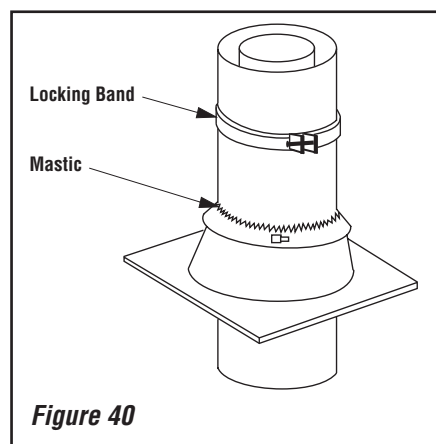

Figure 40
Step 8. The standard Security FTF8 roof flashing assemblies include a storm collar. Slide the storm collar over outer chimney, rest on flashing spacers and align with top surface of flashing. Insert tab in slot, pull tight and bend tab back over slot. Seal storm collar to outer chimney with roof caulking or mastic around entire circumference of pipe. Also add extra roof caulking to the tab/slot area to seal completely against water penetration (**Figure 40**). Check all joints very carefully to ensure no water intrusion can take place.
Step 9. Security Chimneys locking bands, Model FLB, may be required if the chimney extends too high above the roof flashing. As a general rule, if the chimney extends more than 6' above the roof flashing, the use of locking bands is advisable to strengthen the chimney assembly. Align the locking band at the chimney joint. Locking bands wrap around pipe joints equally covering the joints of both pipe sections. Use the nut provided and TIGHTEN snugly. Do not overtighten as this might damage the chimney section (refer to **Figure 40**).